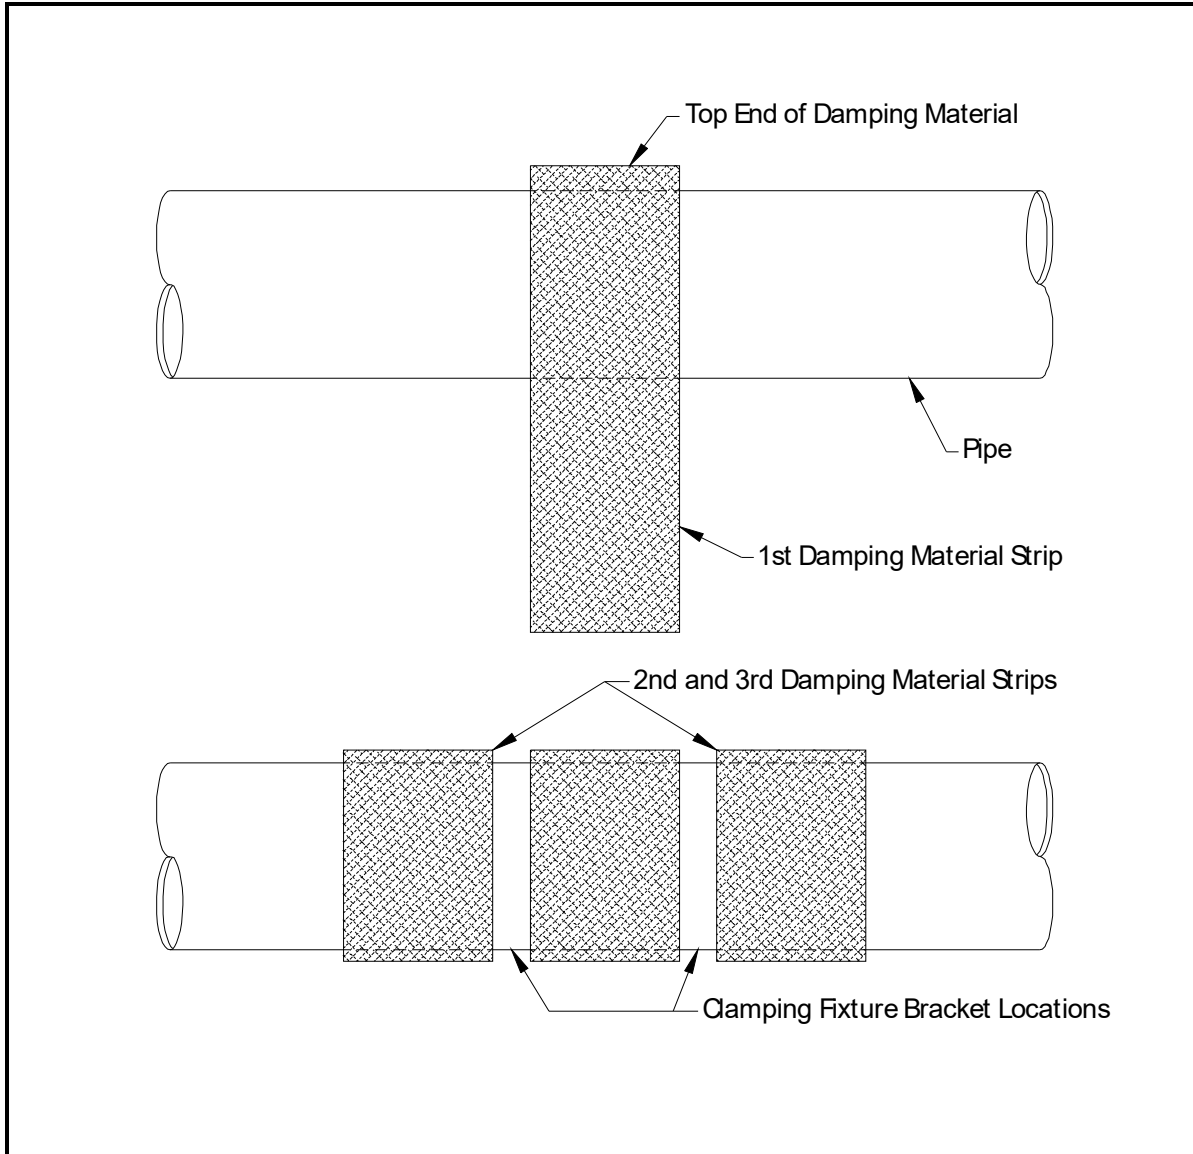

Figure 3: Damping Material - Orientation and Application for CFT-V Fixtures
The surface of the pipe should be covered with damping material. Three pieces of the material should be placed as follows: one between the ends of the CFT-V clamping fixture and one on either side of the fixture. Use the following instructions and Figure 3 on page 13:
1. Place the first piece of damping material at the flow velocity measurement section. Position the strip as shown in Figure 3.
1. Place the first piece of damping material on one side of the fixture. Position the piece in the same way as the first damping material strip shown in Figure 3 on page 13.